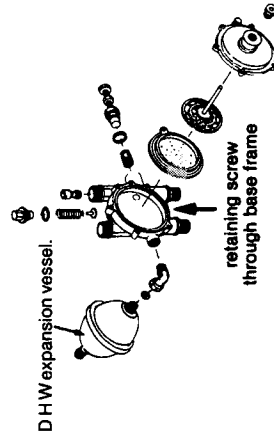

Fig. 38
See fig. 38
8.18.5 Remove manifold (fig. 38) gives details of further disassembly.